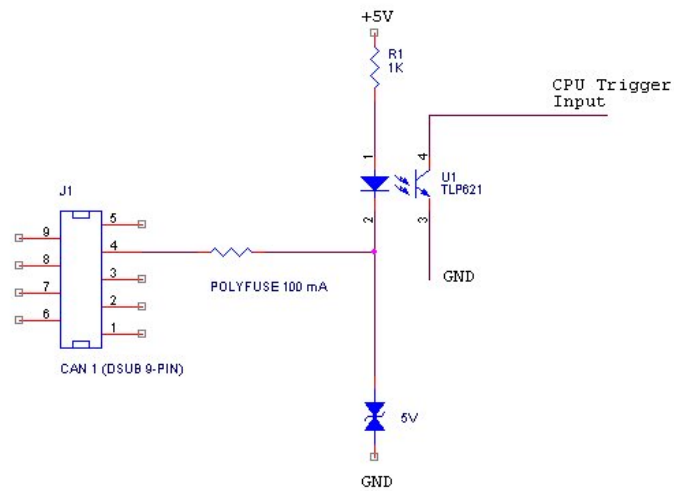

Figure 6: The trigger input inside the Kvaser Memorator Professional.
- Connect a switch from pin 4 on CAN channel 1 to ground, which can be found on pin 3 on the same connector. See Figure 6 on Page 18.